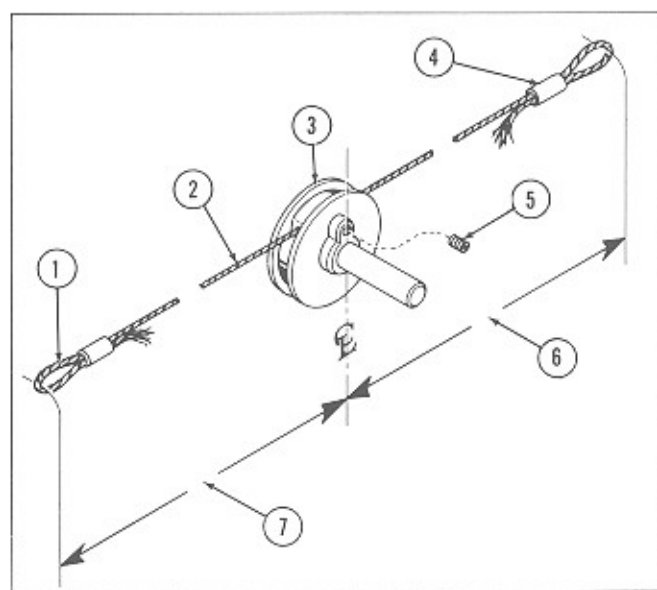

FIG. 70. INSTALLATION OF TURNTABLE CABLE
(1) The replacement Tone Arm and Turntable Actuating Cables are supplied with one loop formed at the factory. To install a new cable the defective cable must be removed. This is easily accomplished by cutting the old cable and loosening the Set Screw (Fig. 70, Item 5). The broken cable can then be removed from the Pulley (Item 3).